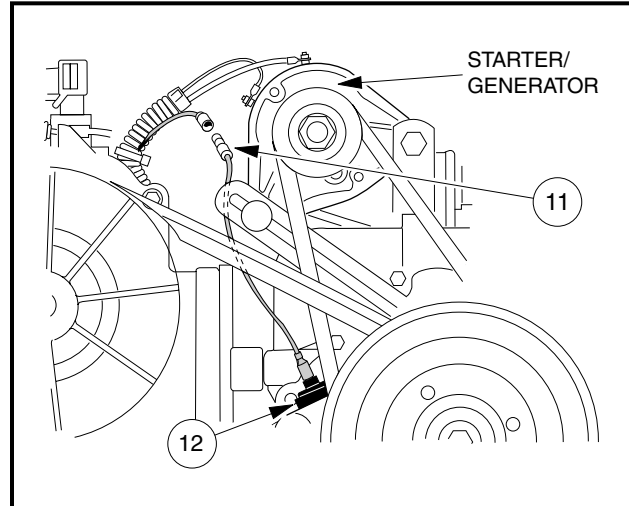

Figure 13-43 Oil Level Sensor Wire
1. Remove yellow jumper wire (11) from cord connector (12) (**Figure 13-43, Page 13-24**).